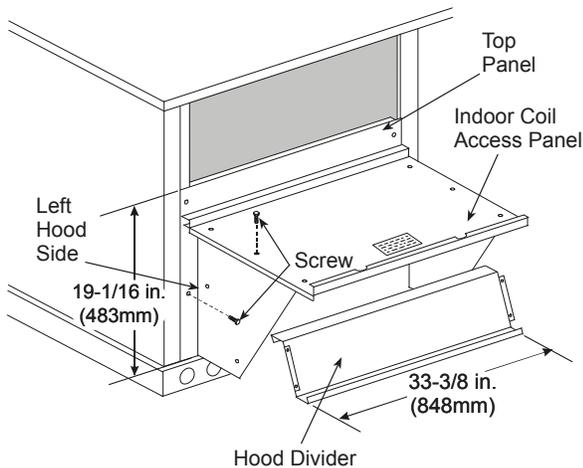

Fig. 16 – Economizer Hood Construction
2. Swing out indoor coil access panel and insert the hood sides under the panel (hood top). Use the screws provided to attach the hood sides to the hood top. Use screws provided to attach the hood sides to the unit. See Fig. 16.
4. Insert the hood divider between the hood sides. See Fig. 16 and 17. Secure hood divider with 2 screws on each hood side. The hood divider is also used as the bottom filter rack for the aluminum filter.